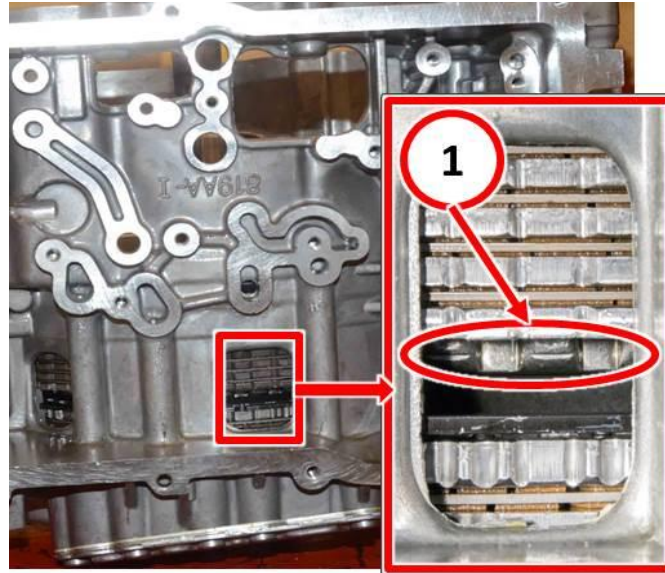

Fig. 13 Gear Train Assembly Properly Seated
40. While not allowing the input shaft to slip inward, wriggle the gear train assembly until it is properly engaged into the C and D-Clutch discs. See (Fig. 13) for proper gear train assembly installation.